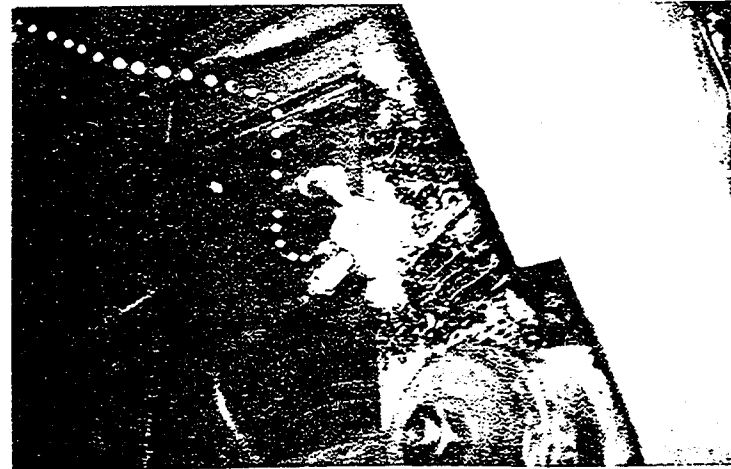

FIGURE 5 - TEE AND HOSES
5. Locate, drill mounting holes, and mount control line tee as shown on schematic drawing. Install fittings and hoses, using short hose from tee to right spring actuator and long hose from tee to left spring actuator (Figure 5).